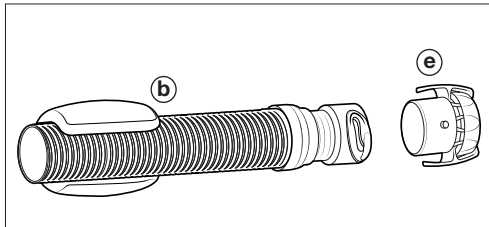

Figure 6. Connect the Hose Clip
1. Ensure that the hose clip (e) is connected to the leader hose (b). The leader hose (b) is the hose section with foam float attached (Figure 6).